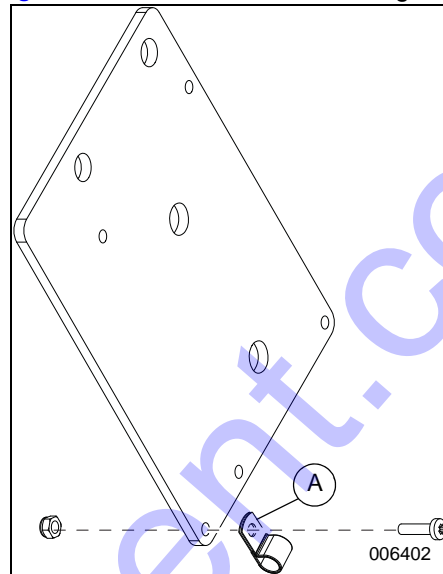

Figure 6. Tubing Clamp Removal
6. See **Figure 6**. Remove and retain tubing clamp (A).